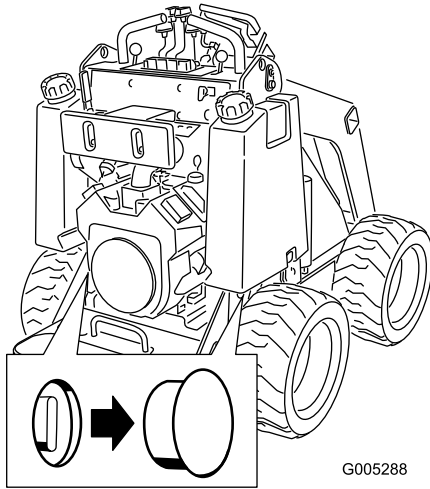

Figure 12
- Remove the plug covering each tow valve (Figure 12).